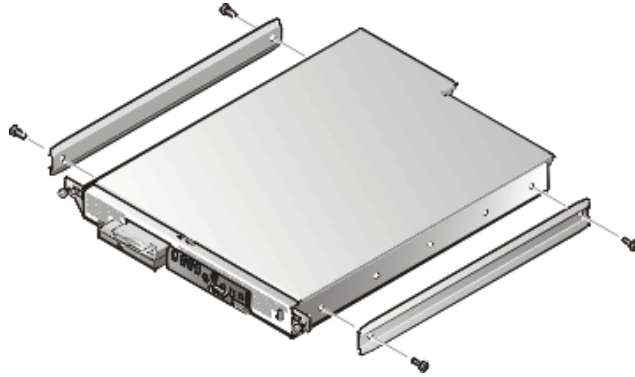

Figure 7. Securing the Inner Rails to the System Chassis
1. Locate the two inner rails and position one to the side of the chassis (see Figure 7).
Ensure that the flat end of the inside rail is toward the front of the chassis and that the end with two threaded holes is located at the back of the chassis. The flat central part of the inside rail must be facing the chassis, with the raised upper and lower rail surface facing outward (see Figure 7).